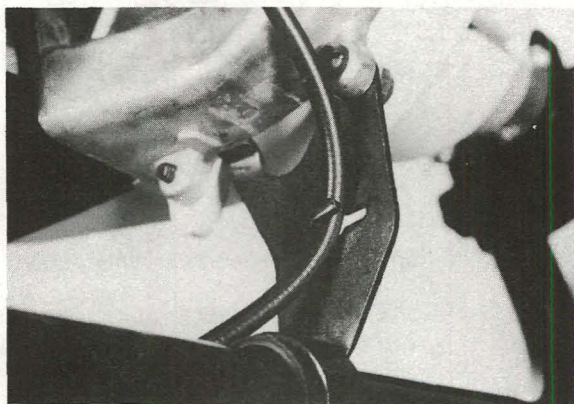

Fig. 13
5. Route the throttle cable through the clip of the engine mount bracket (Fig. 13).